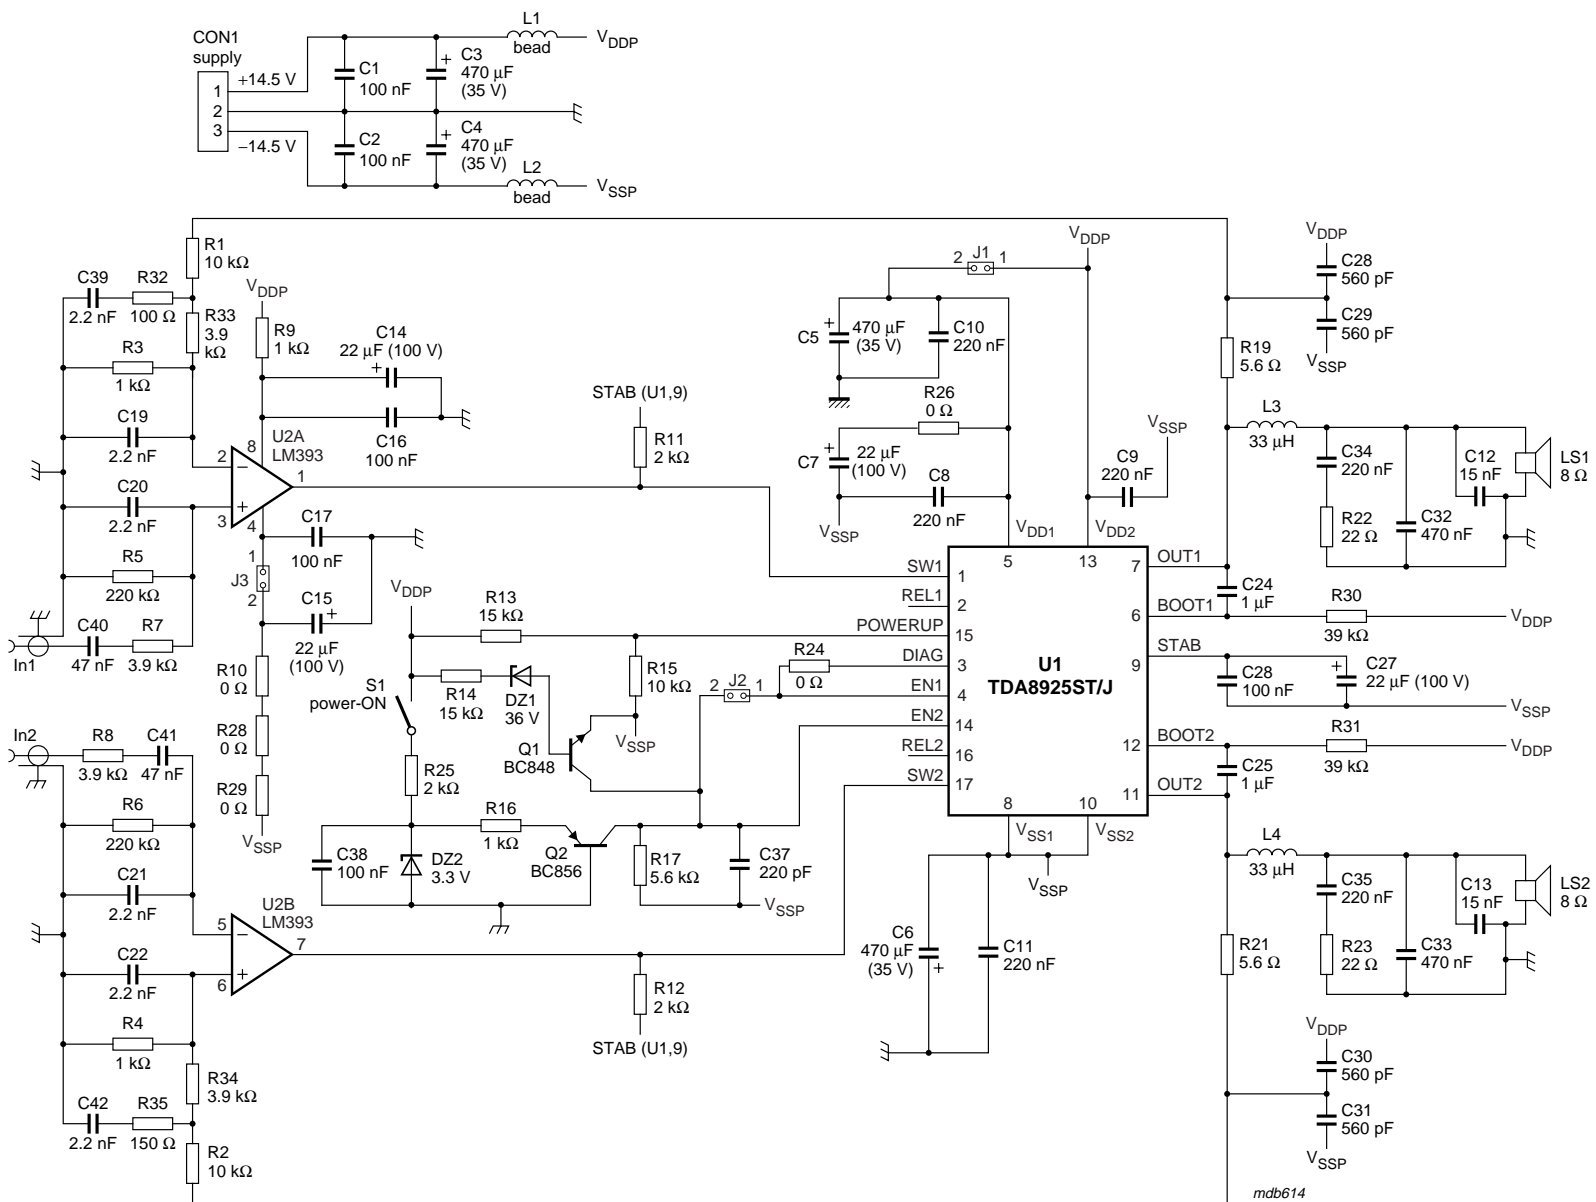
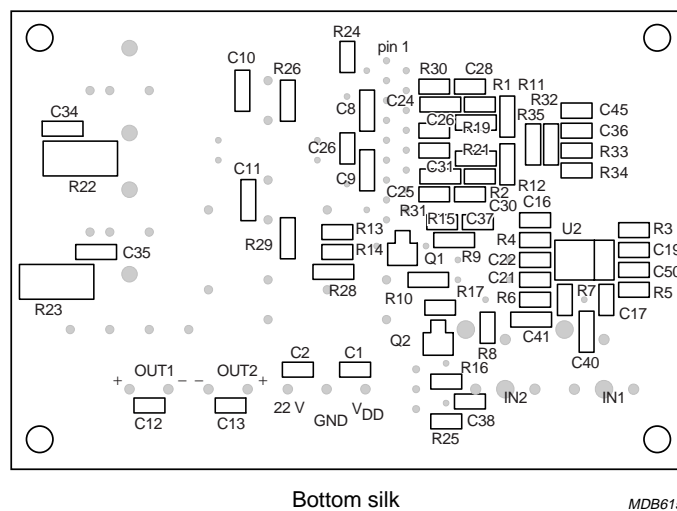

Fig.5 SE self oscillating class-D system application diagram for TDA8925.
Fig.6 Printed-circuit board (bottom silk) layout for TDA8925ST.
- $V_P = \pm 15$ V; $R_L = 8\ \Omega$; $f_i = 1$ kHz; $f_{osc} = 310$ kHz; $R_s = 0.1\ \Omega$ (series resistance of filter coil); $T_{amb} = 25$ °C; measured in reference design (SE application) shown in Fig.5; unless otherwise specified.
- Total Harmonic Distortion (THD) is measured in a bandwidth of 22 Hz to 20 kHz (AES 17 brickwall filter). When distortion is measured using a low-order low-pass filter a significantly higher value will be found, due to the switching frequency outside the audio band. Measured using the typical application circuit, given in Fig.5.
For SE application the application diagram as shown in Fig.5 can be used.
The reference design for a self oscillating class-D system for the TDA8925 is shown in Fig.5. The Printed-Circuit Board (PCB) layout is shown in Figs 6, 7 and 8. The bill of materials is given in Section 15.5.1.